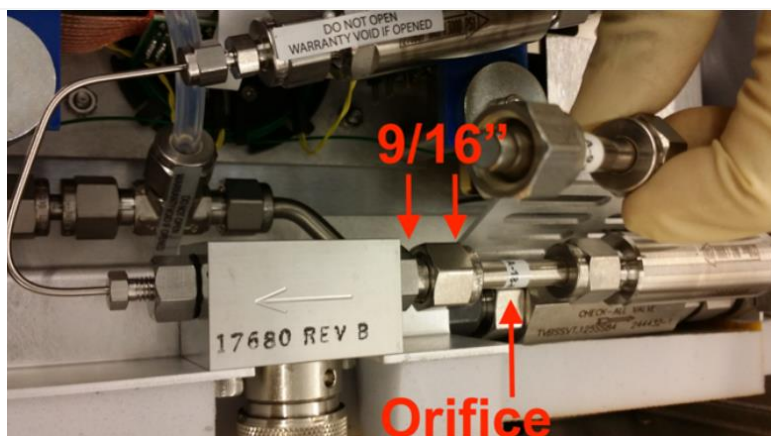

Figure 203. Loosen Orifice Nut to Remove Critical Orifice.
STEP 14 | Using two 9/16" wrenches, loosen the nut to remove the critical orifice (Figure 203).